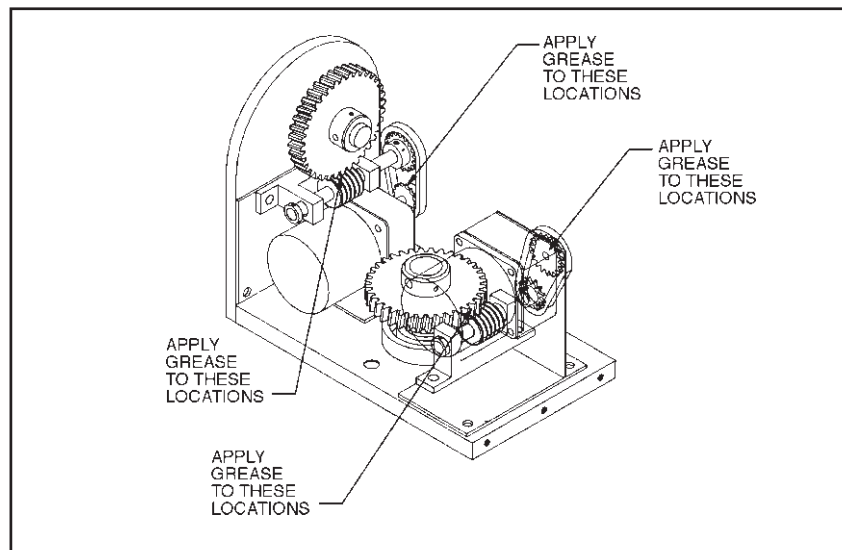

Figure 9. Servicing the Pan/Tilt
1. Liberally apply grease to the pan and tilt gears, chains, and sprockets (refer to Figure 9).